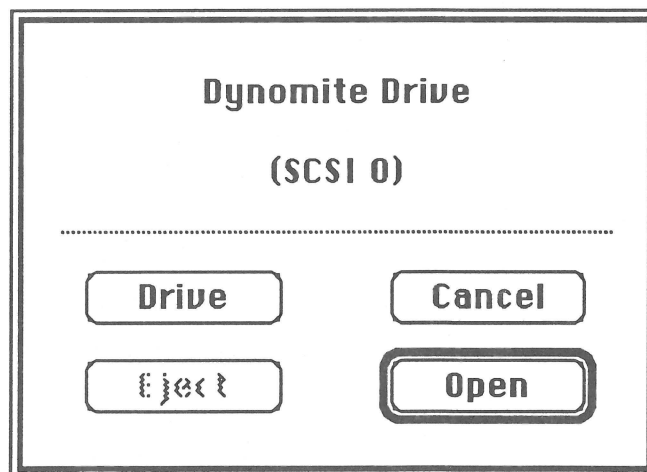

FIGURE 2
5. The drive selection window, shown in Figure 2, lists an attached SCSI hard disk and gives its SCSI select number. If this is the drive you want to repair, click **Open**. If not, click **Drive** to change the selection.
9. If you want to repair another attached SCSI hard drive, pull down the **File** menu and select **Close**. Then pull down the **File** menu again and select **Open Volume**. This selection returns you to the drive selection window (see Figure 2).